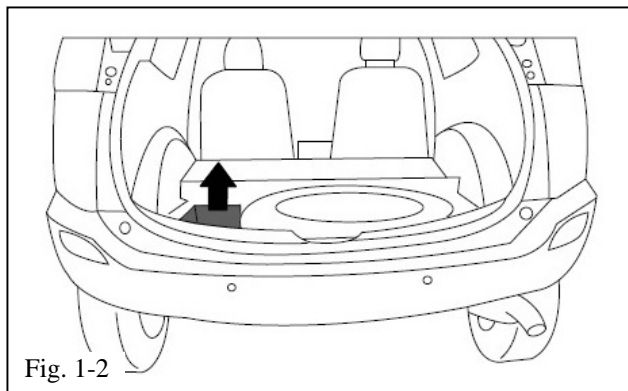

Fig. 1-2
- (c) Remove the three clips of the LH storage tub. Pull up to release the tub and retain the parts for reinstallation (Fig. 1-2).